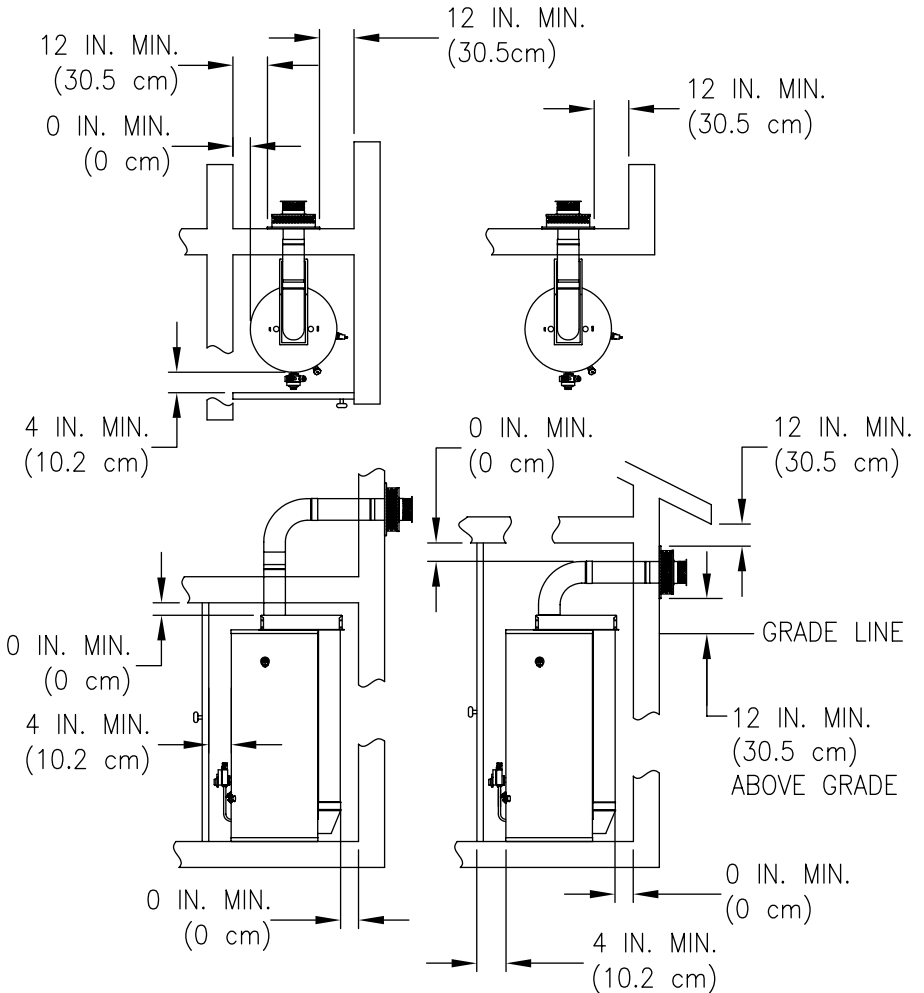

Figure 1
This installation must allow access to the front of the water heater and adequate clearance must be provided for servicing and operating this water heater. The water heater may be installed on either a combustible or non-combustible floor. If the water heater is to be installed directly on carpeting, it must be installed on top of a metal or wood panel extending beyond the full width and depth of the appliance by at least three (3) inches (76.2 mm) in any direction or, if the appliance is to be installed in an alcove or closet, the entire floor must be covered by the panel. The minimum clearances to combustibles for this water heater is: zero (0) inch (0 cm) from the sides and rear, four (4) inches (10.2 cm) from the front of the jacket, zero (0) inch (0 cm) from the plenum, zero (0) inch (0 cm) from the air intake tubes and twelve (12) inches (30.5 cm) from the direct vent-air intake terminal. (See Figure 1).